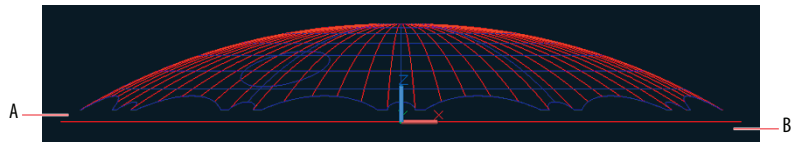

FIGURE 17.13 Selecting lines on the ground in the Front view for deletion
18. Click the Front arrow below the ViewCube. Type **E** (for Erase), and click points A and B in Figure 17.13 to select all the lines on the ground. Press Enter to erase the selection.